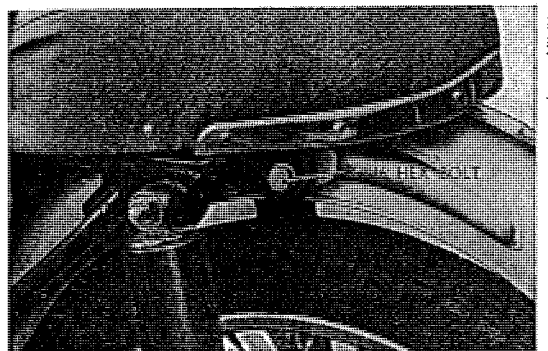

Fig. 4.43 Seat mounting bolt
3. Loosen the two 8×16 seat mounting bolts then separate the seat from the frame by pulling it backward. (Refer to Fig. 4.43)